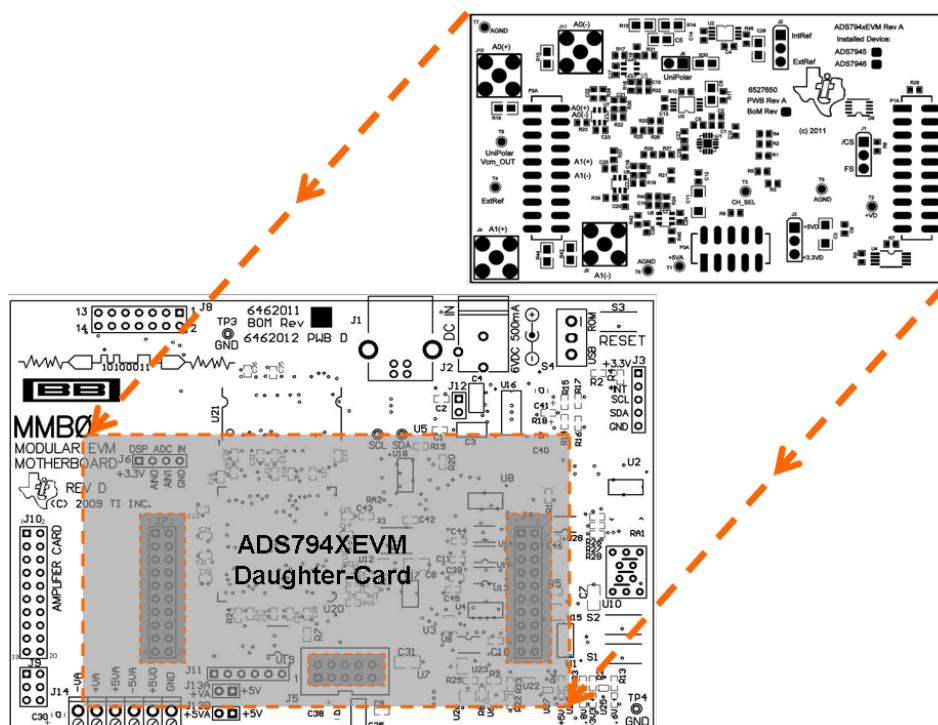

Figure 7. Connecting ADS794xEVM to MMB0
Step 3. Plug the ADS794xEVM into the MMB0, as Figure 7 illustrates.